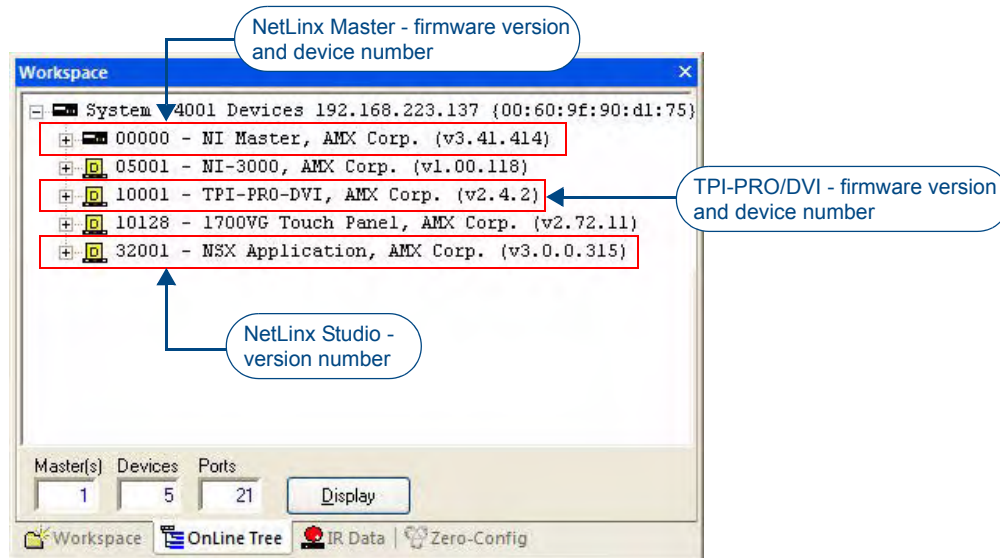

FIG. 91 NetLinx Workspace window (showing connected TPI-PRO/DVI)
1. Use the **OnLine Tree** in NetLinx Studio to view the devices on the System. Verify the TPI-PRO/DVI appears in the OnLine Tree tab of the Workspace window (FIG. 91).